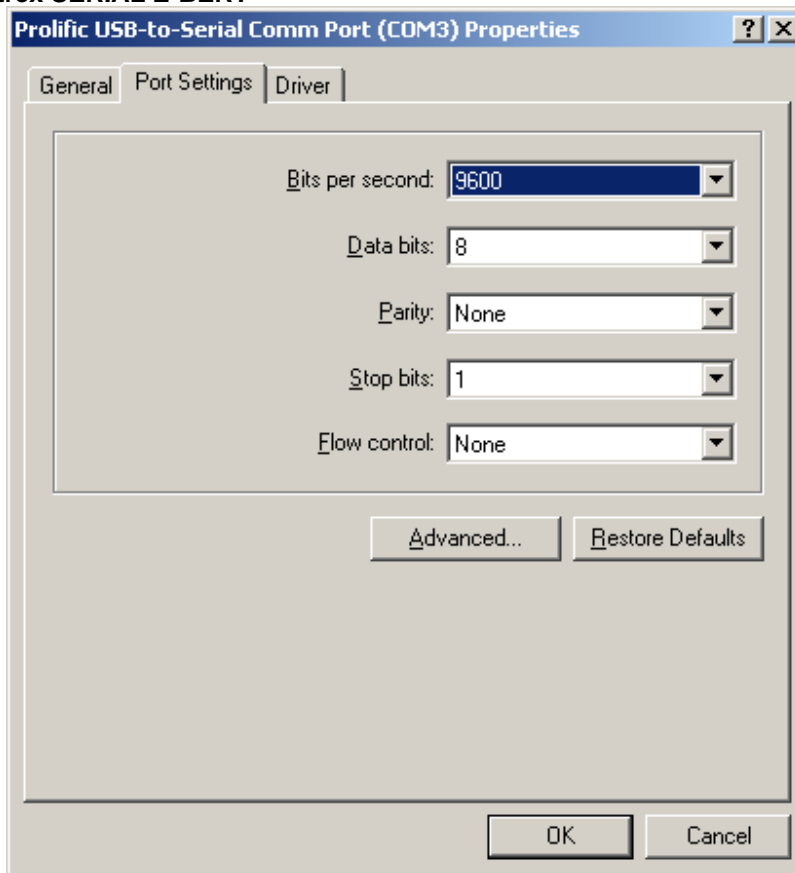

Figure 10: COM Port Setting
(2) Doubly click on **“Prolific USB-to- serial Comm port(COM3)”** .And it could go to **‘ properties’**. (Figure 10)